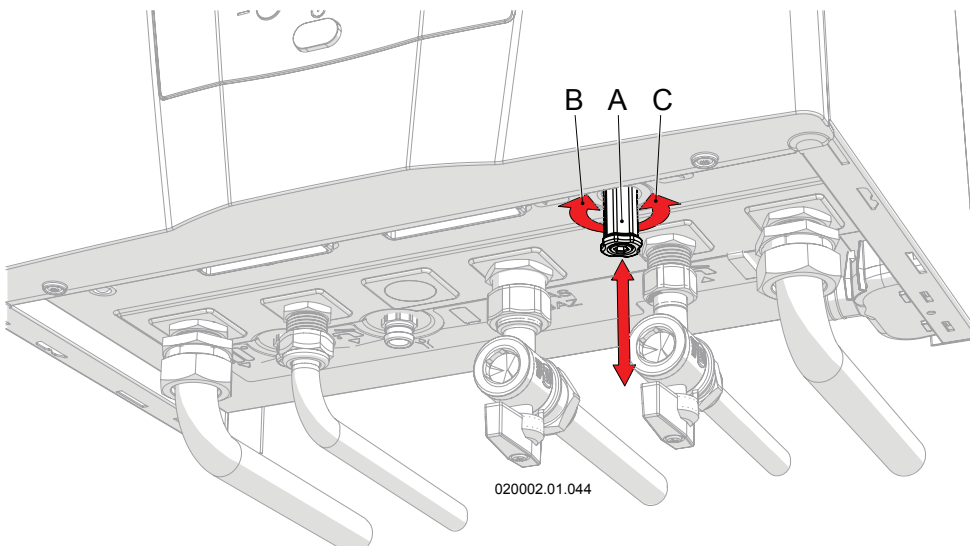

Figure 7-2 – System fill cock
- 1.- Pull the knob “A” in figure 7-2 downwards;
- 4.- Close the fill cock (see knob “A” in figure 7-2), turning it clockwise.
In some boiler models the system fill knob “A” in figure 7-2 may be absent. In these cases, use the device provided by the installer in the system before the boiler itself.
**WARNING! During normal operation, fill cock “A” (see figure 7-2) must always remain in the closed position.**
Figure 7-2 key